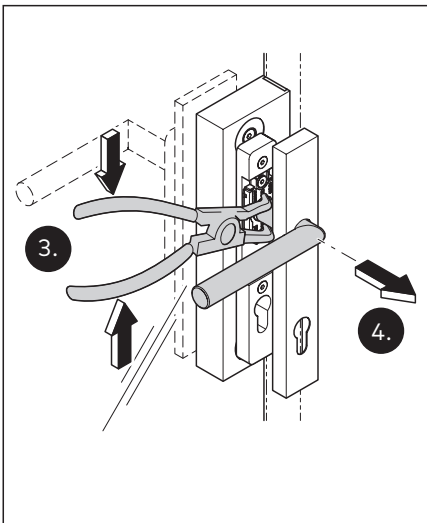

Fig. 39 Lifting the door handle away from the door handle rose
4. Insert the circlip pliers into the door handle rose and prize the circlip apart (Fig. 39).